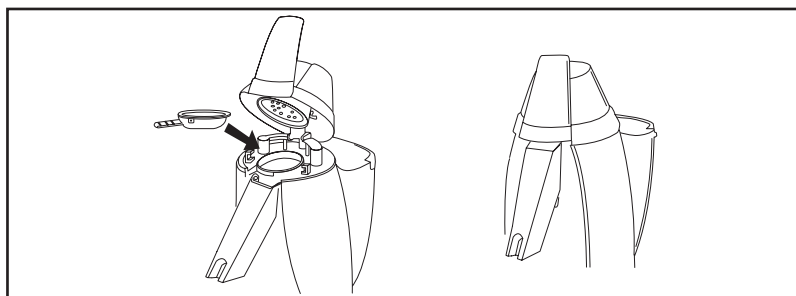

FIGURE 7
6. Place the Pod Holder so it sits securely on top of the Pod Chamber, see Figure 7.
7. To close the Lid, press down firmly on the top of the Lid and hold in place while pushing the Lever back so it is flush with the Lid and locks into place, see Figure 7.
5. Place the empty Pod Holder inside the Pod Chamber, see Figure 7.